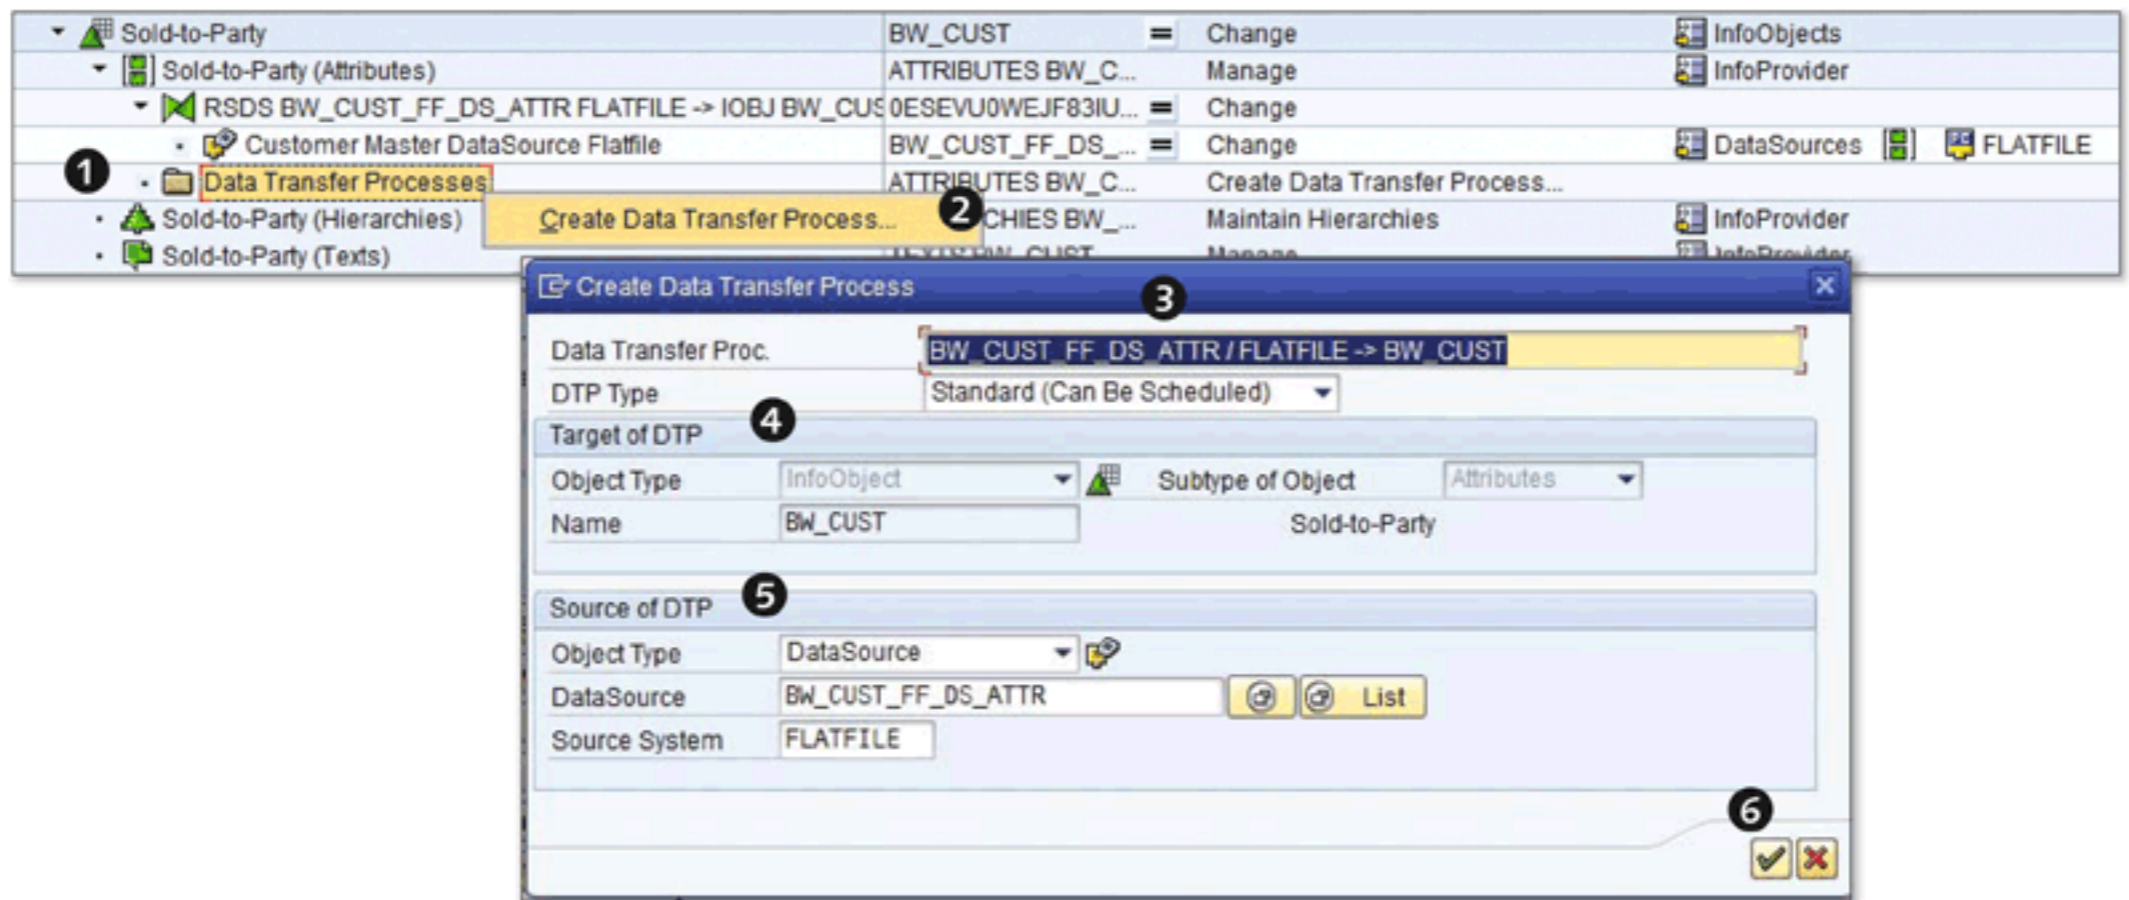

Figure 7.25 Creating DTP
Select **DATA TRANSFER PROCESSES**, and then, from the context menu, select **CREATE DATA TRANSFER PROCESS** (2 of Figure 7.25). The **CREATION OF DATA TRANSFER PROCESS** box appears (3). Because you've started the creation of the DTP from the associated transformation, all of the required information is automatically supplied (4 and 5). Click on the **CONTINUE** icon (6).